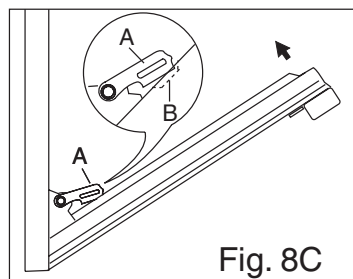

Fig. 8C
- 4) shut the oven door slowly until it reaches hooks **"A"**, making sure these are locked into slots **"B"** of the oven door, as shown in fig. 8C.